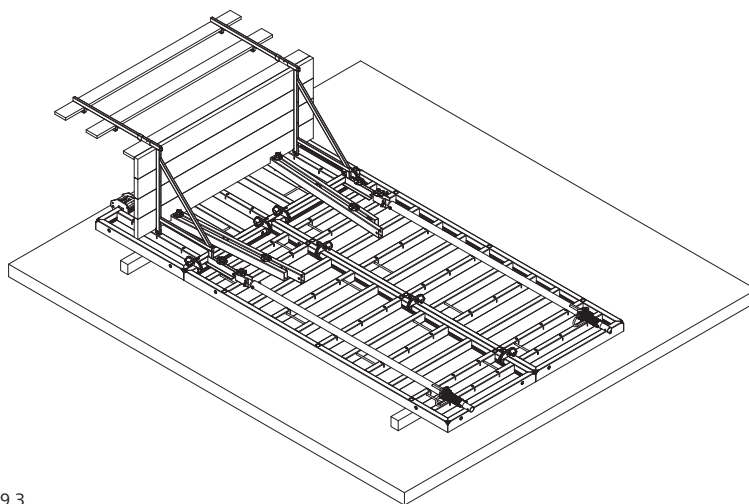

Fig. 59.3
5. Install the assembly locks, steel rails, bracing, and walkway brackets (Fig. 59.3).